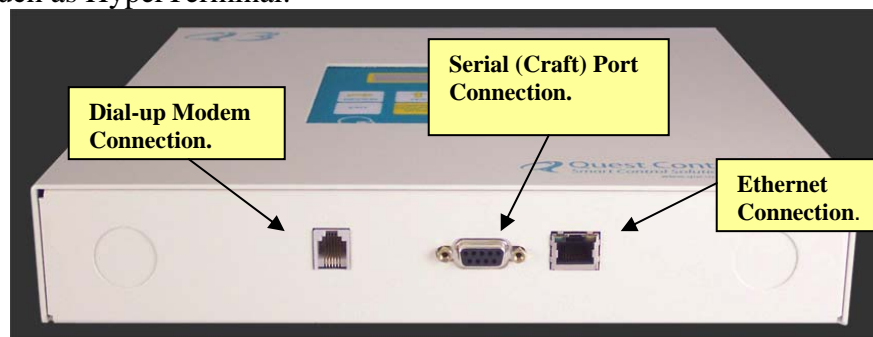

Figure 7: Bottom Panel of Q3 with Connection Ports
Step 1: Connect the serial port on the bottom panel of the Q3 to the serial port of a laptop using the 9-pin RS232 cable (Figure 7).
Step 1: Connect the telephone cable from the phone jack to the phone port on the Q3 (Figure 7).
Step 1: Connect the supplied Ethernet cable to the RJ45 connector on the bottom of the Q3 (Figure 7). Connect the other end to your facility's router in the assigned spot. If the router is not present, then route the cable to the area where the router will be installed and label the cable.